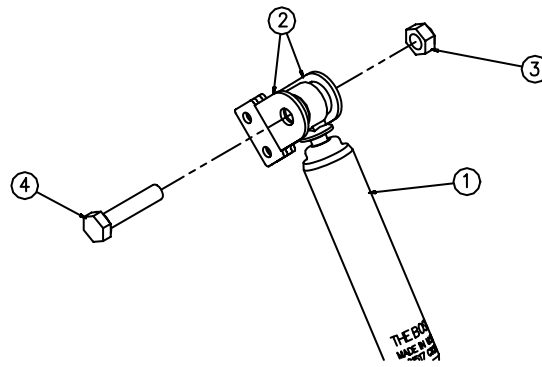

Figure 3. Install Shock Mounts to Shock Absorber.
- 7) Install Blade Shock Mounts (2) to the rod end of Shock Absorber (1) using 5/8"-11 x 3" Hex Head Cap Screw (4) and 5/8"-11 Oval Top Lock Nut (3). See Figure 3. Leave finger tight.